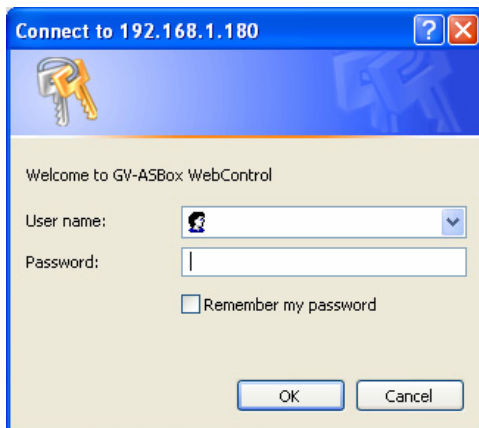

Figure 8-2
1. Open an Internet browser, and type the default IP address <https://192.168.0.100>. The login dialog box (Figure 8-2) appears.